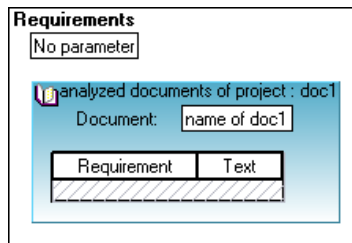

Figure 4-5. Inserted Column Text Elements
22. Select the area below the column headers, as shown in Figure 4-5.